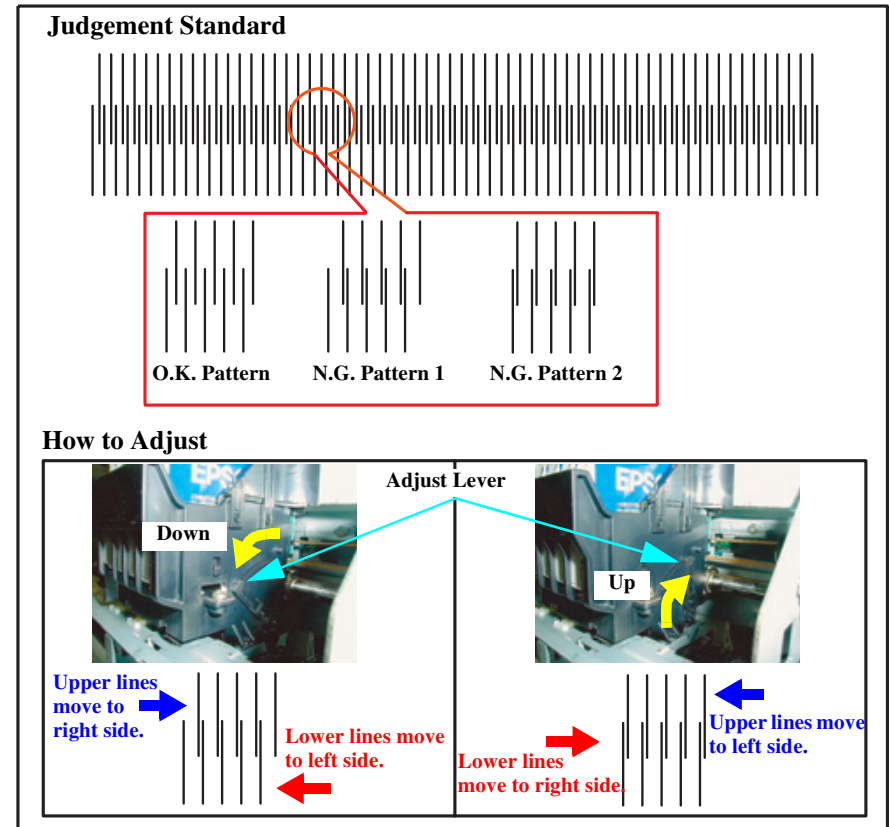

Figure 5-14. Judgement Standard & Relationship between Adjust Lever Operation & Reaction of Angle Check Pattern
4. By referring Figure 5-14 mentioned relationship between adjust lever operation and reaction of angle check pattern, decide your target direction and the location for the head angle adjustment lever.
8. Check the printed pattern whether you can accept or not by referring Figure 5-14.